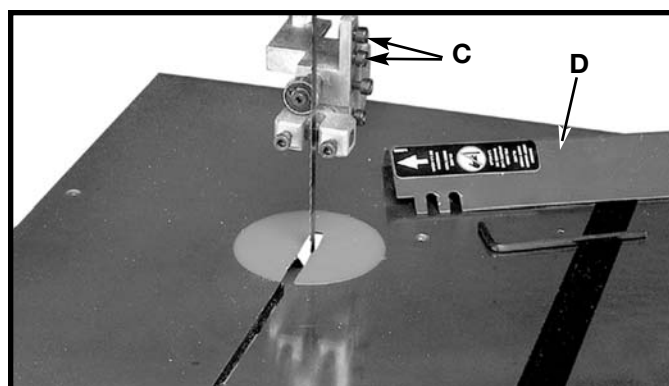

Fig. 36
2. Loosen the two screws (C) Fig. 36, and remove the blade guard (D).